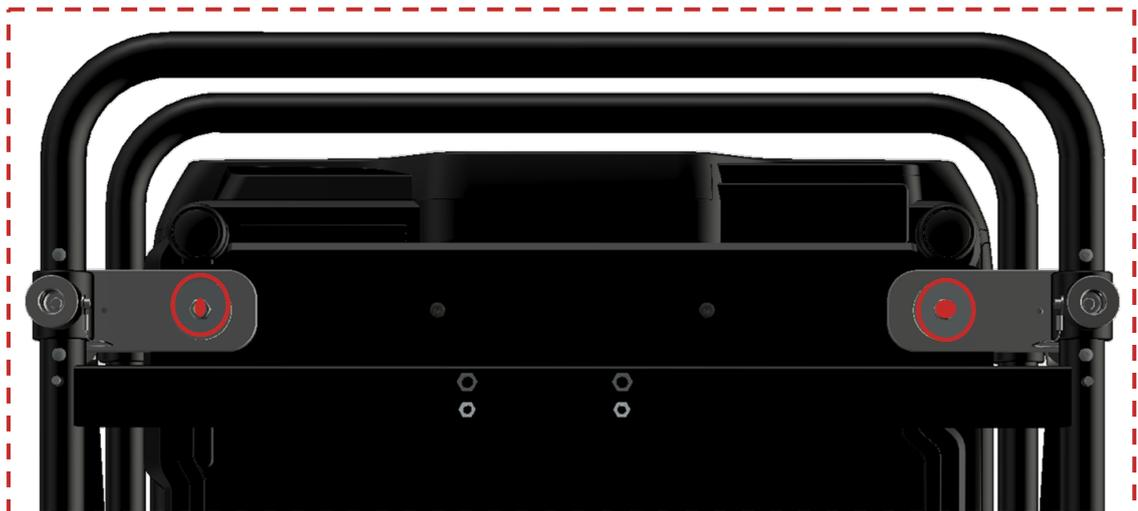

Figure 27 Nuts on front bottom side which are sealed with red colour wax
- On the three screws + nuts presented on the above two pictures (Figure 27 and Figure 28) red color sealing wax was applied to be sure that the nuts will always be on the same position and no one will try to tighten or loose them.
Except for the three nuts described on the previous section (see Figure 27 and Figure 28), please control, with corresponding tool, that all the other screws are properly tightened.